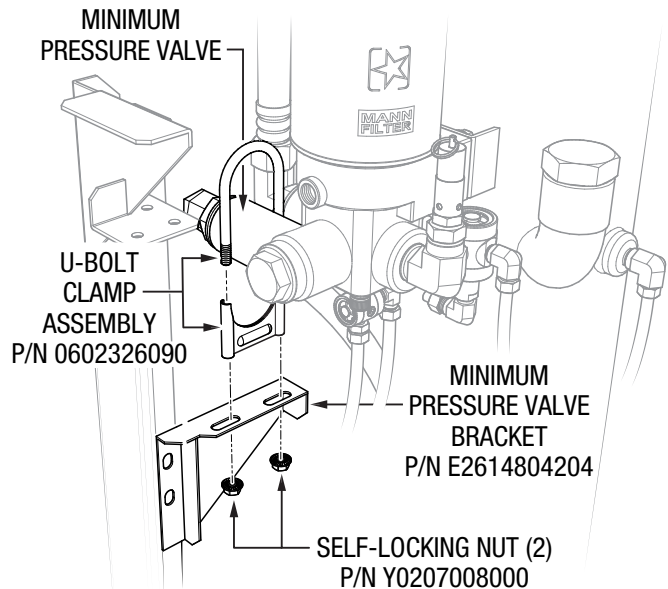

Figure 15. U-Bolt Clamp Installation
1. Place the U-bolt clamp (P/N 0602326090) onto the minimum pressure valve as shown in Figure 15. Attach the minimum pressure valve bracket (P/N E2614804204) to the U-bolt clamp with the two self-locking nuts (P/N Y0207008000). **Hand tighten only** at this time.